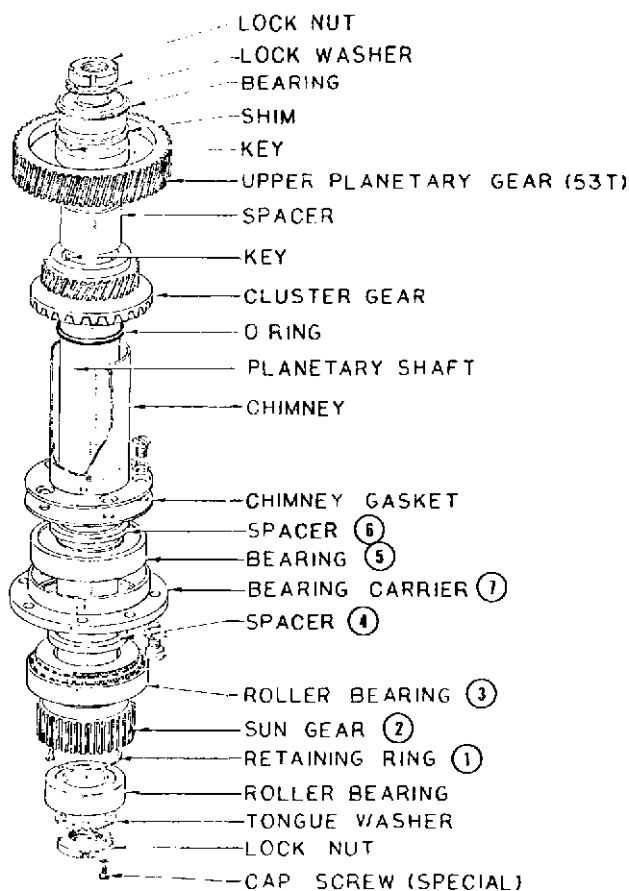
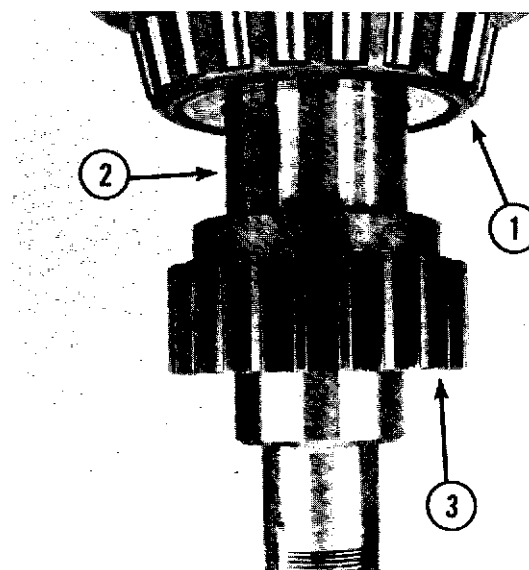

Fig. 11-13
Fig. 11-14
- A. Remove the retaining ring (1, Fig. 11-13).
- B. Remove the sun gear (2, Fig. 11-13) and the key.
- C. Remove the roller bearing (3, Fig. 11-13) and the lower bearing lower spacer (4, Fig. 11-13).
- D. Remove the ball bearing (5, Fig. 11-13) and the lower bearing upper spacer (6, Fig. 11-13).
- B. Install the lower bearing upper spacer (6, Fig. 11-13).
- C. Install the ball bearing (5, Fig. 11-13) and the bearing carrier (7, Fig. 11-13).
- D. Install the lower bearing lower spacer (4, Fig. 11-13) and the roller bearing (1, Fig. 11-14).
- E. Install the key (2, Fig. 11-14) and the sun gear (3, Fig. 11-14). (Collar toward the bearing.)
- F. Install the retaining ring (1, Fig. 11-13).